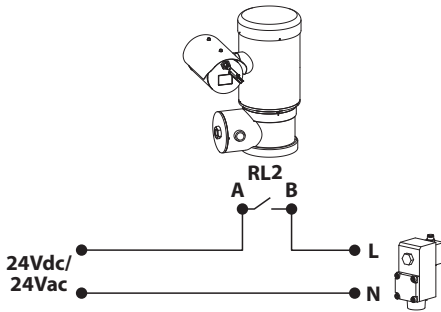

Fig. 14
- Connect as in the diagram below (Fig. 14, page 14).